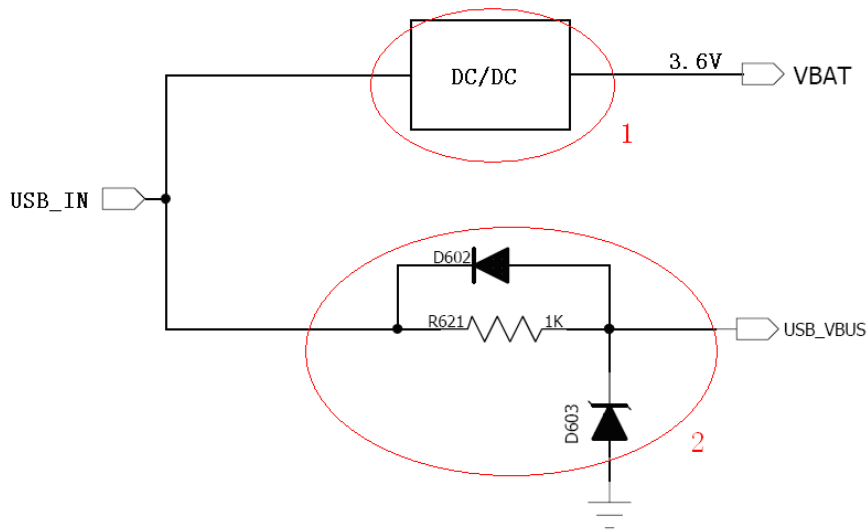

Figure2-8 The reference of voltage protection circuit
4) The USB interface input the voltage from USB\_IN .For keeping the USB in U6300 module working unfailingly, a voltage protection circuit should be added by user between the USB\_IN of USB interface and the USB\_VBUS PIN of U6300. It is shown in figure 2-8 with the red circle 2. In the voltage protection circuit, D603 is a Zener diode with a breakdown voltage value of 5.1v which could keep the voltage on the USB\_VBUS PIN of U6300 not more than 5.1v. D602 is a Schottky Diode, and R621 is a resistor with the value 1KΩ . On the other hand the voltage coming from the USB\_IN also could be converted by using a DC/DC converter to 3.6v and then be sent to VBAT PIN of U6300. It is shown in figure 2-8 with the red circle 1.
- 2) For avoiding the instantaneous voltage overflowing, the resistor with the reference value 22  $\Omega$  can be used for the DALA, CLK and RST. Just like the resistors R307, R308 and R309 in figure 2-8.
- 3) For avoiding the electro-static in USIM socket, it is recommended to use the ESD element to the DATA, CLK and VCC. Just like the voltage dependent resistors RV301, RV302, RV303 and RV304 in figure 2-8. And the ESD element should close to the USIM socket as close as possible.
- 4) For getting the more smooth USIM power supply, it is recommended to use the filter capacitors. Just like C311 and C312 in figure 2-8, and their reference values are 33pF and 100nF.